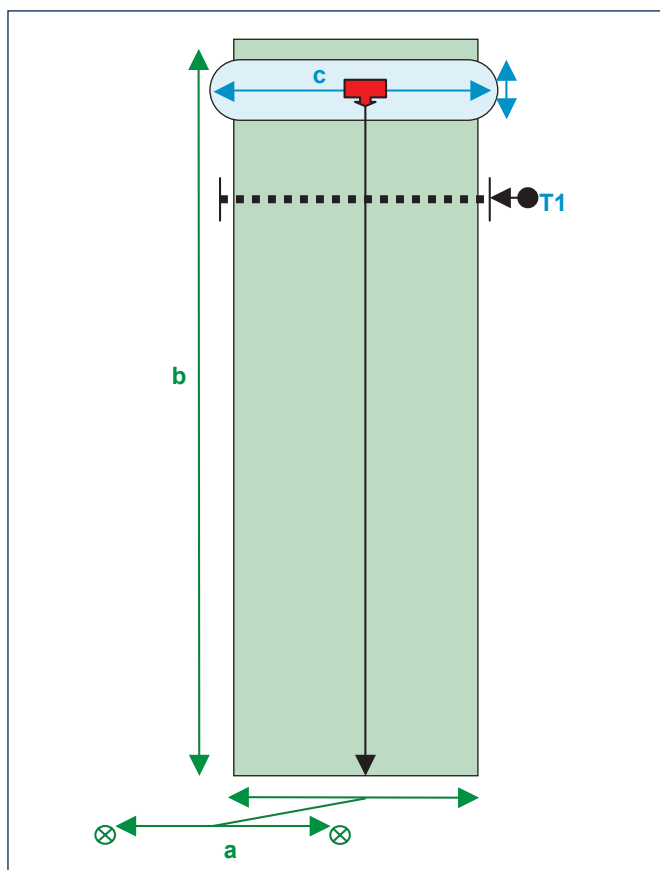

Figure 2.2. Layout of calibration test of linear move irrigators
9. Measure the Run Length (b in Figure 2.2)
10. Measure the Run Length (may be hydrant positions) (a in Figure 2.2)